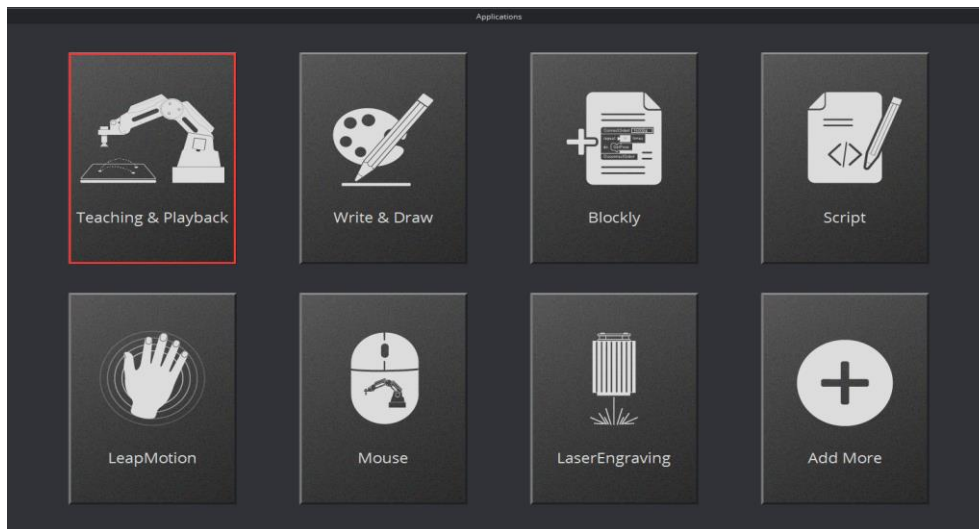

Figure 1.20 Return to Teaching&Playback
2. Click **Teaching & Playback** to enter the **Teaching & Playback** page for setting ink dipping actions. As shown in Figure 1.20.